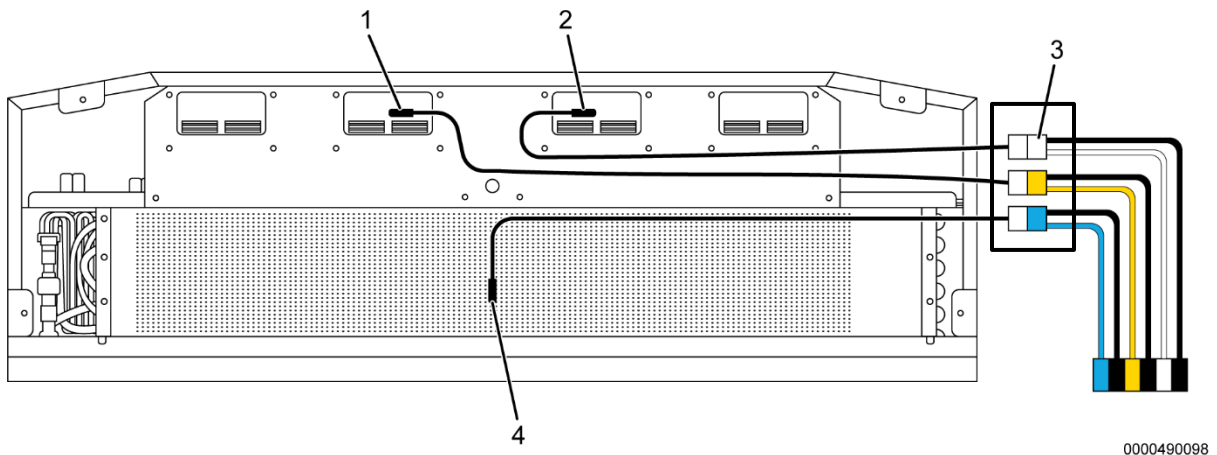

Figure 1. Evaporator Temperature Sensor Location
10. Connect temperature sensors to correct color wire based on location of sensor, referring to Figure 1.
11. Connect YELLOW wire to coil temperature sensor (Figure 1, Item 1).
12. Connect WHITE wire to outlet temperature sensor (Figure 1, Item 2).
13. Connect BLUE wire to return temperature sensor (Figure 1, Item 4).